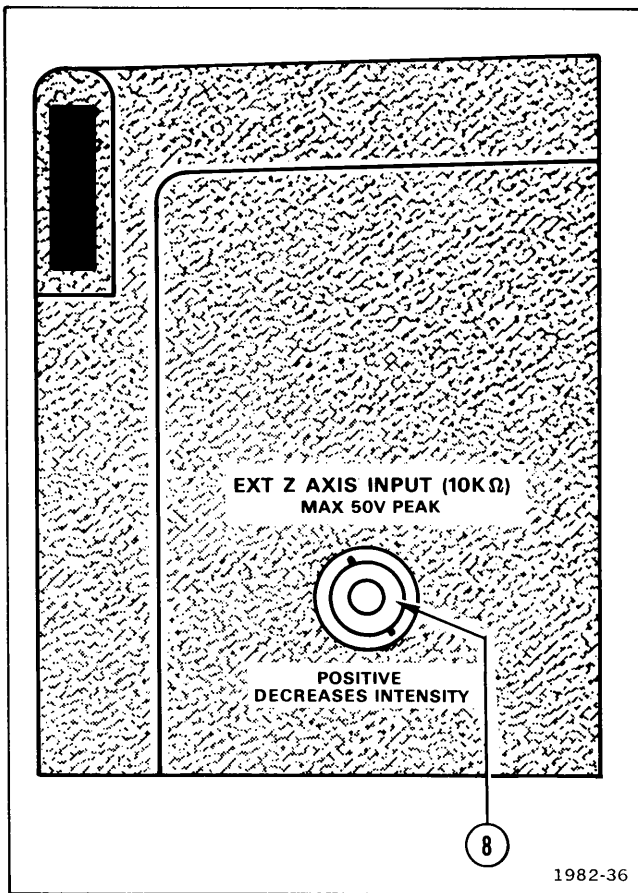
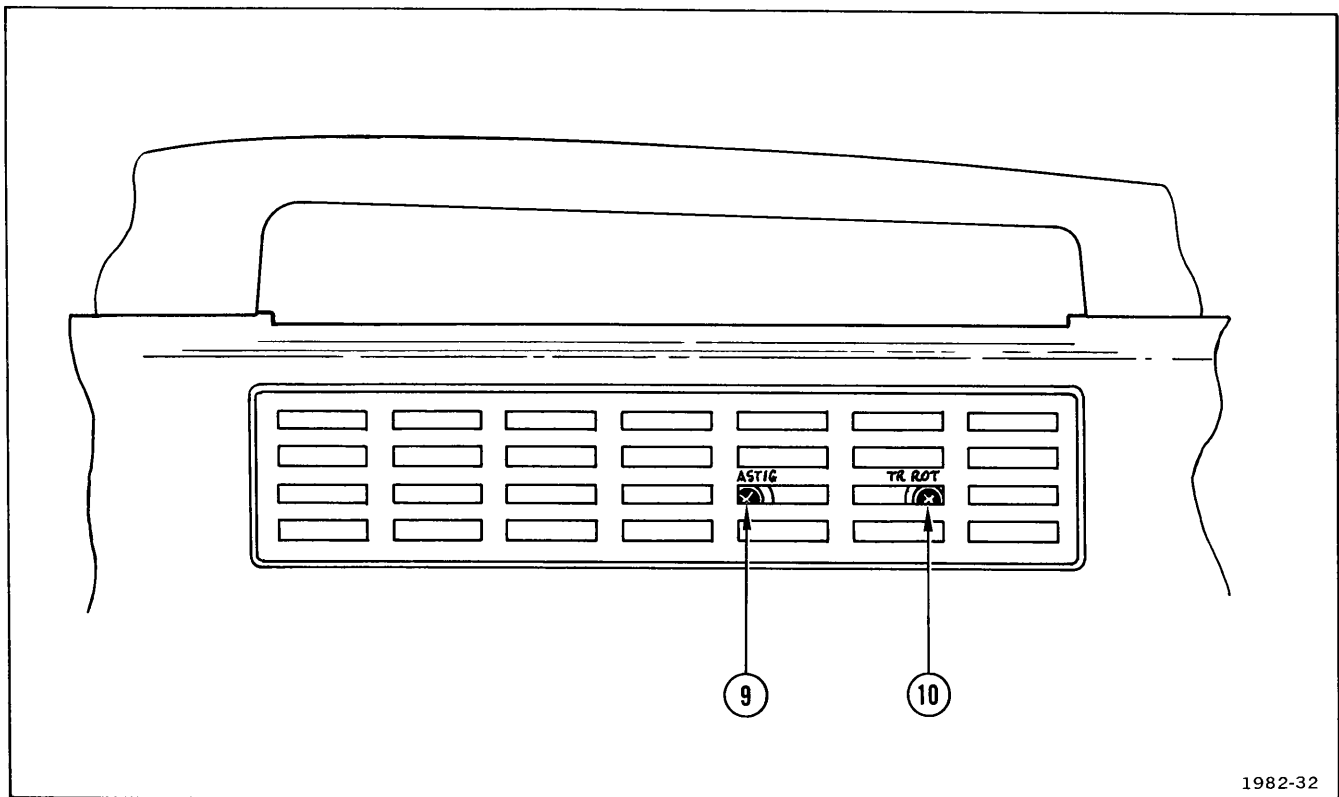

Fig. 2-2. Rear panel controls and connectors.
Fig. 2-3. Left side of cabinet.
④ **PROBE ADJ**—Provides a square-wave output of approximately 0.5 V (negative-going with respect to ground) at approximately 1 kHz, for compensating voltage probes.
⑤ **ON-OFF**—Push-push switch turns the instrument power on (button in) and off (button out). (In some versions this switch is labeled POWER.)
⑥ **POWER**—Indicator lamp lights when ON-OFF button is depressed to ON (in) position and applied power input voltage does not vary more than about 10% from the value indicated by the 120 V/240 V and HI/LO voltage selector switch settings. When applied power input voltage varies more than about 10% (either high or low) from the selected value, the lamp will blink. (In some versions this lamp is labeled ON.)
⑦ **Internal graticule**—Eliminates parallax. Risetime, amplitude, and measurement points are indicated at the left edge of the graticule.
**Rear Panel (Fig. 2-2)**
- ⑧ **EXT Z-AXIS IN**—BNC connector for applying signals to intensity modulate the crt display. Signals must be time-related to the display for a stable display.
**Left Side of Cabinet (Fig. 2-3)**
- ⑨ **ASTIG**—Screwdriver adjustment used with FOCUS control to obtain a well-defined display. Requires little or no adjustment once set.
- ⑩ **TR ROT**—Trace rotation screwdriver adjustment. Aligns trace with the horizontal graticule lines.